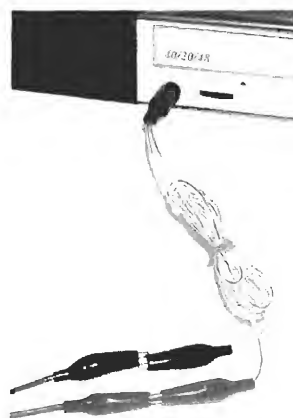

Figure L49-15
- a. Attach your “Test Cord” clips to the same color clips of the scope probe as shown in Figure L49-15.